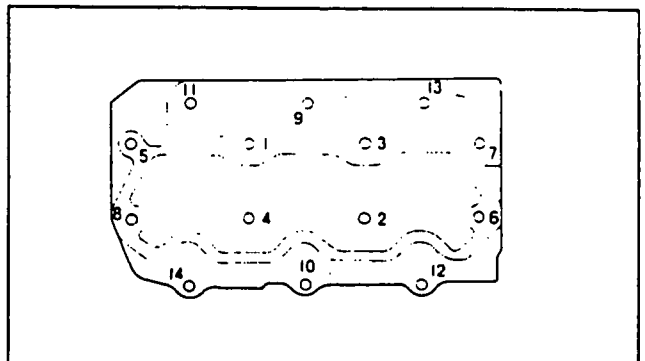

Figure 16. Cylinder Head Tightening Sequence
3. Tighten the cylinder head bolts in three (3) phases and in the sequence shown in Figure 16. Alignment pins are provided for proper positioning. Coat all bolt threads with molybdenum disulfide grease.